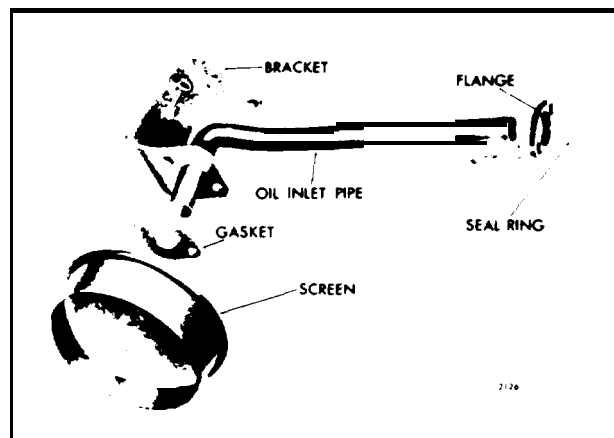

Fig. 9 - Oil Pump Inlet Pipe and Screen Details and Relative Location of Parts (In-Line Engine)
4. Attach the oil inlet screen to the oil inlet pipe support with two bolts and lock washers (Fig. 9).